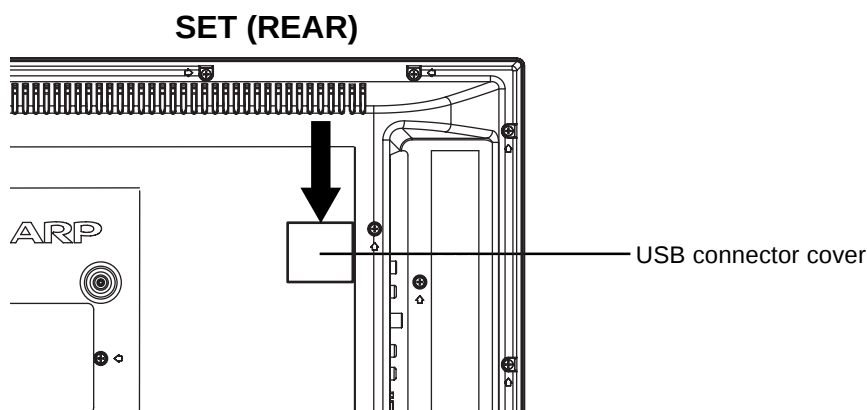

Fig.1
3. Set the minus driver to the topside of the USB connector cover, remove the USB connector cover. Insert the USB Flash Memory to USB connector. **(Refer to Fig.1)**